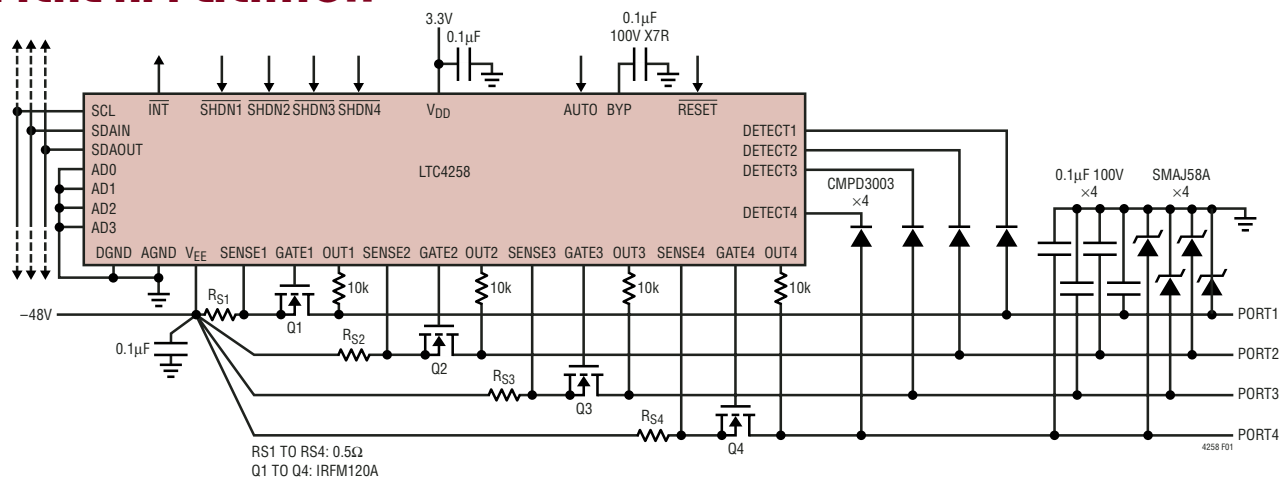

Figure 1. Complete 4-Port Powered Ethernet Power Source
The LTC[®]4258 is a quad –48V Hot Swap™ controller designed for use in IEEE 802.3af compliant Power Sourcing Equipment (PSE). It consists of four independent ports, each with output current limit, short-circuit protection, complete Powered Device (PD) detection and classification capability, and programmable PD disconnect using DC sensing. Used with power MOSFETs and passives as in Figure 1, the LTC4258 can implement a complete IEEE 802.3af-compliant PSE.